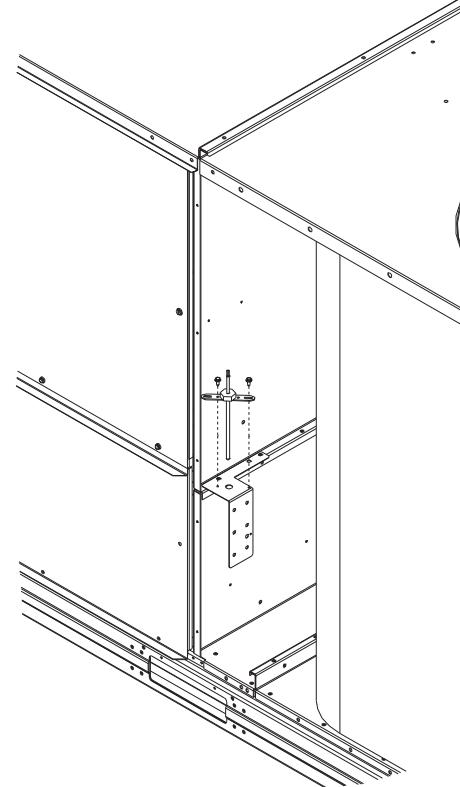

Fig. 24 – OAT Installation for Chassis 6 and 7 Units
5. For chassis 6-7 size units, locate the factory installed OAT Bracket in the coil area, two No. 10 screws and install OAT sensor. (See Fig. 24.)